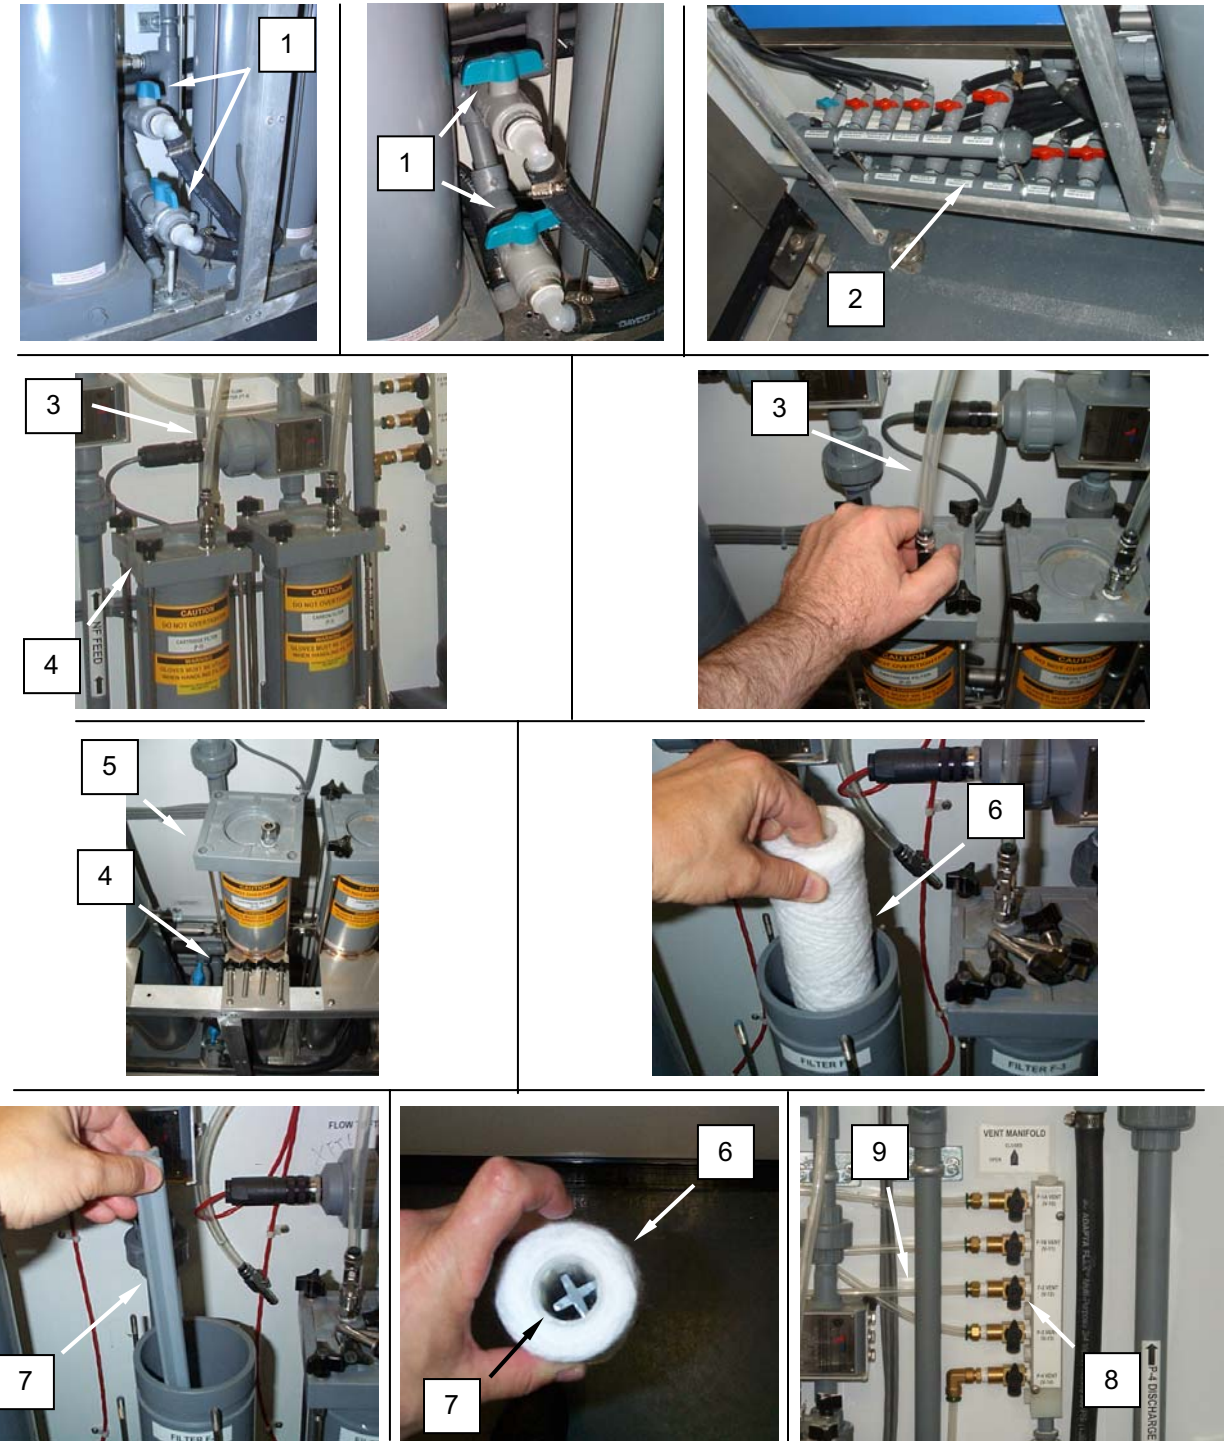

Figure 1. Replace the F-2 Filter Cartridge.
5. Remove the vent hose (**Figure 1, item 3**).
6. Remove four thumbscrews (**Figure 1, item 4**), and remove the filter cover (**Figure 1, item 5**).
7. Remove old filter cartridge (**Figure 1, item 6**) and discard in an approved container. Retain the filter support (**Figure 1, item 7**).
8. Install the filter support (**Figure 1, item 7**) into the replacement filter cartridge (**Figure 1, item 6**).
9. Wet the replacement filter cartridge (**Figure 1, item 6**) at the exterior service spigot.
13. Install access cover (**Figure 1, item 5**), and fasten access cover with four thumbscrews (**Figure 1, item 4**). Ensure the access cover is tightened down evenly in the sequence illustrated in Figure
14. Install vent hose (**Figure 1, item 3**).
15. Close the filter drain valve V-28 (**Figure 1, item 2**) and open the filter isolation valves V-41 and V-42 (**Figure 1, item 1**).
17. Once the system is back into operation processing laundry, monitor the vent tubing (**Figure 1, item 9**); when clear water with no bubbles is observed, close the F-2 vent valve V-12.